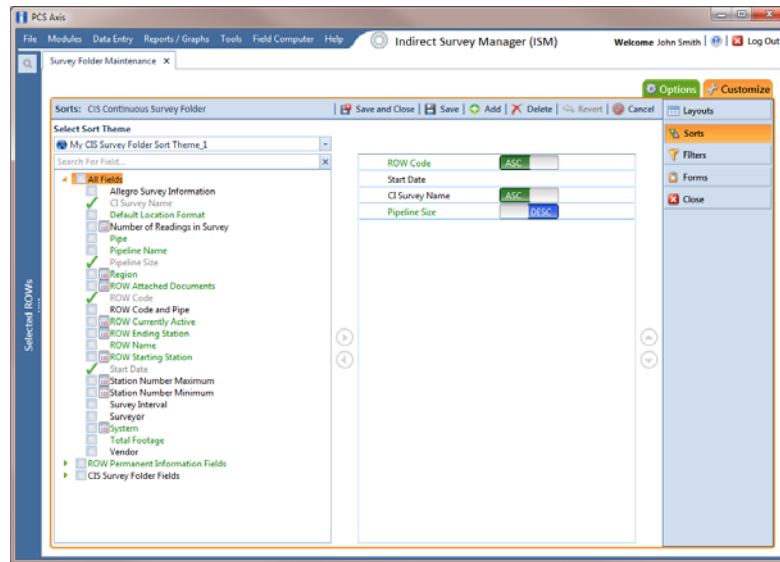

Figure 6-16. Sort Theme
- 9 Click **OK** to save changes and return to the *Sorts* page (Figure 6-16, page 200).